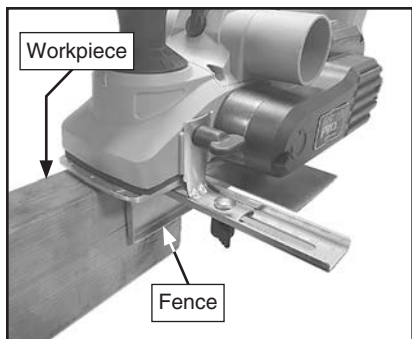

Figure 12. Fence adjusted for use as edge guide.
- If using fence as edge guide, loosen fence scale lock knob, adjust fence against workpiece, then tighten lock knob (see **Figure 12** on **Page 14**).